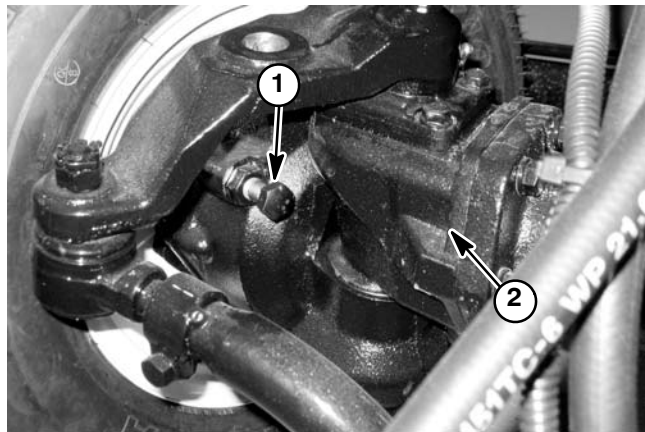

Figure 16
11. Check steering stop bolt adjustment. When the steering cylinder is fully contracted (left turn), a gap of **1/16" (1.6 mm)** should exist between bevel gear case casting and stop bolt on left axle case. Figure 16 shows stop bolt location.